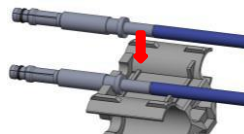

Figure 2
- a. Orient lower pilot/auxiliaries as shown in (Figure 2)